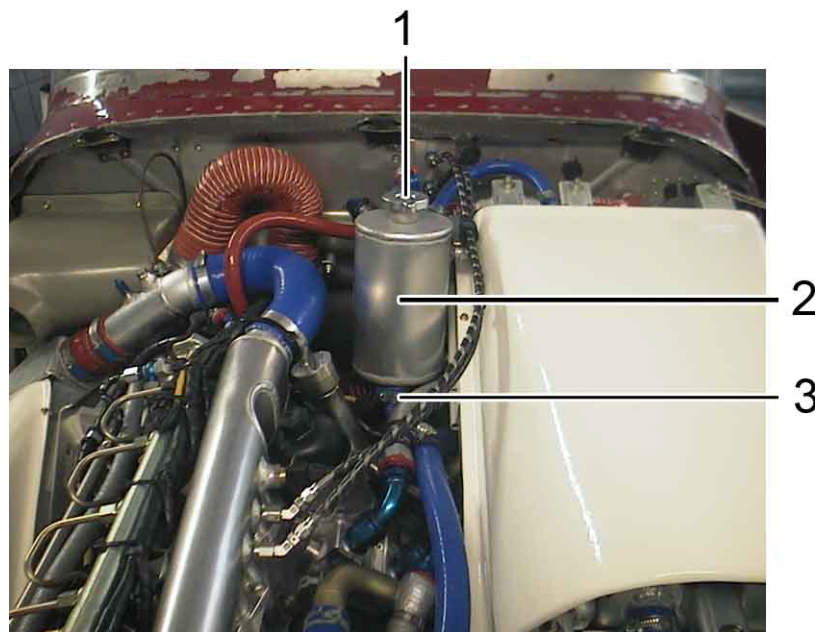

Fig. 31-4a Expansion Tank of TAE 125-01
- (2) Disconnect the coolant hose and allow the coolant to drain in a suitable container. See Fig. 31-4a.
See Fig. 31-4a.
- (1) Connect the coolant hose to the expansion tank. See Fig. 31-4a.
- (2) Replenish the coolant (refer to Chapter 12, Liquid Cooling System)